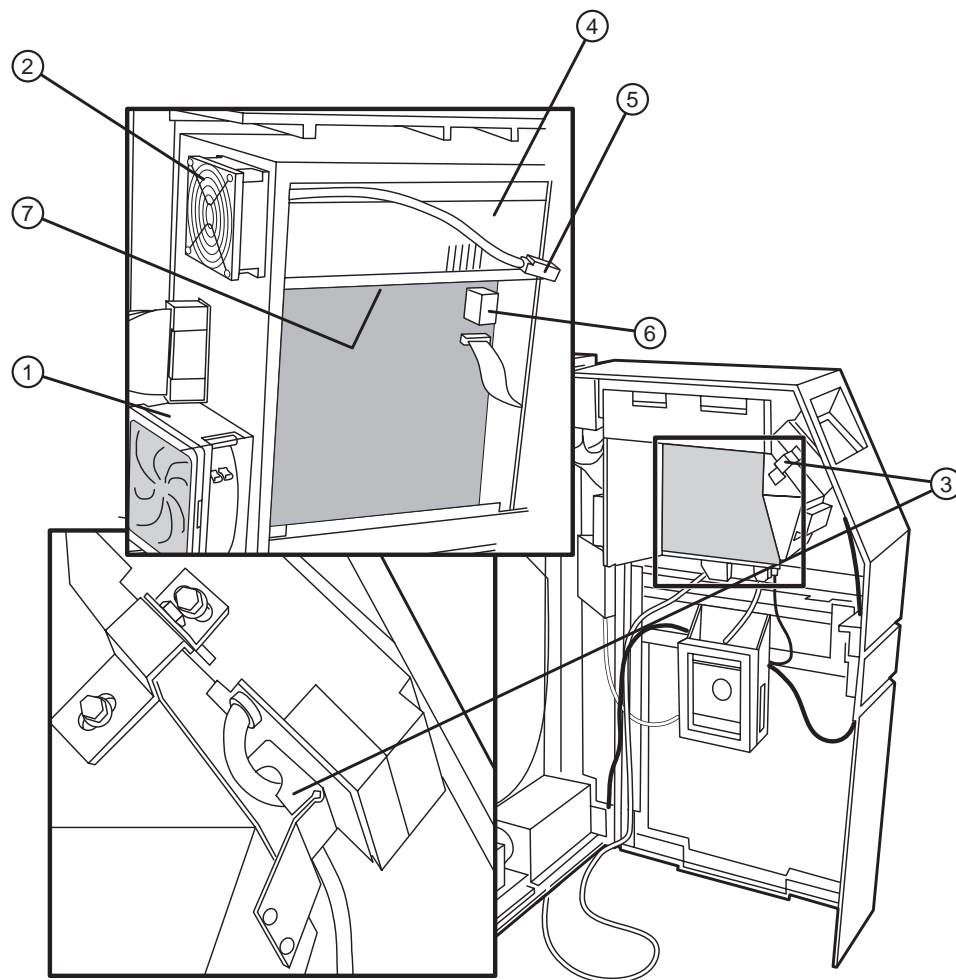

Figure 4-23 Power supply.
4. Remove the screw securing the ground wire located behind the intake fan assembly. Refer to Figure 4-23.
5. Remove the two (2) wires going to the intake fan.
- ①—Intake fan. ②—Exhaust fan. ③—Power connector to control panel.
- ④—Power supply. ⑤—AC power connector. ⑥—Power connector to DEC Board.
- ⑦—Three hex screws under shelf.
6. Remove the cable clamp on the intake fan securing the cable wires. Refer to Figure 4-23.
7. Disconnect the connector going to the exhaust fan. Refer to Figure 4-23.
10. Remove the power connector to the DEC board. Refer to Figure 4-23.
11. Disconnect the power connector from the control panel to the power supply. Refer to Figure 4-23.
12. Remove the three (3) hex screws that secure the power supply to the electronic enclosure shelf. Refer to Figure 4-23.